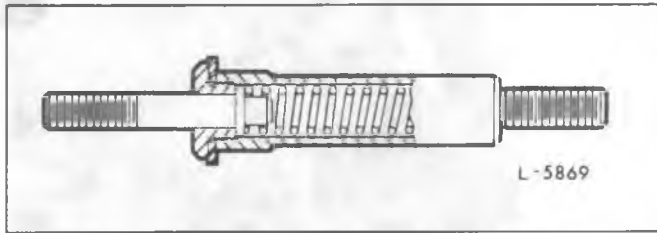

Fig. 1 - Throttle Delay Yield Link Assembly
Effective with engines built April 1, 1980 a throttle delay yield link assembly (Fig. 1) replaces the vertical link assembly, for those applications where a throttle delay mechanism is used in conjunction with the hydraulic governor (refer to Section 14.14).
11. Refer to Table 1 and adjust the length of the yield link or vertical link so that the bolt holes of the levers and the rod end bearings are lined up with the governor lever and the injector racks are in the no-fuel position. Always install the throttle delay yield link of a Series 149 hydraulic governor with the yieldable end inside the governor control housing (Fig. 1). Positioned in this manner the yieldable end is protected from abrasives which can accelerate shaft wear.